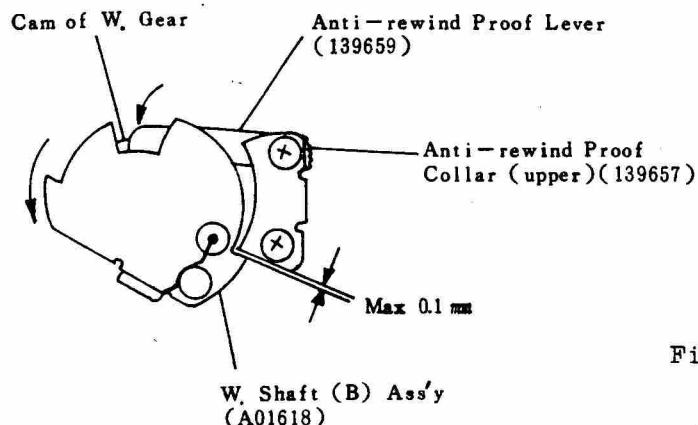

Fig 39
- b) Make the position which Anti - rewind Proof Lever (139659) is engaged with Cam of W. Gear as shown in (Fig 39).